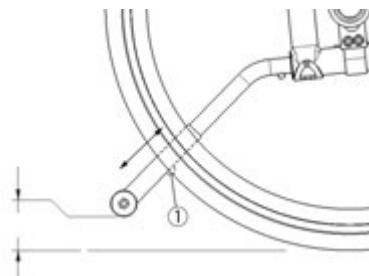

Fig. 40
- Press the push-button (1) (Fig. 40) and slide anti-tippers extensions to desired length.